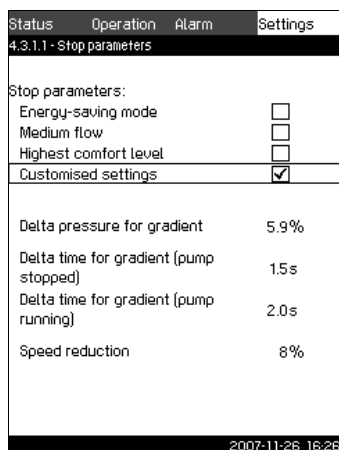

Fig. 65 Customized settings
8. Select one of the stop parameters with \checkmark or \wedge , and save with ok . If **Customised settings** are selected, the parameters shown in fig. 65 must be set. See examples below.